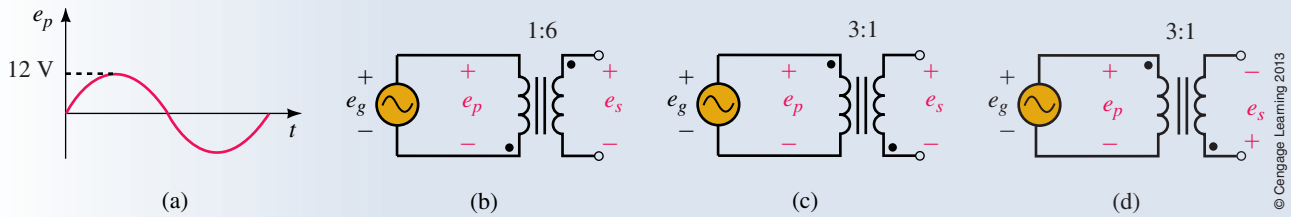

FIGURE 23–14 Waveform (a) is the applied primary voltage.
- If $\mathbf{E}_g = 120 \text{ V} \angle 30^\circ$, determine $\mathbf{E}_s$ for each transformer of Figure 23–14.